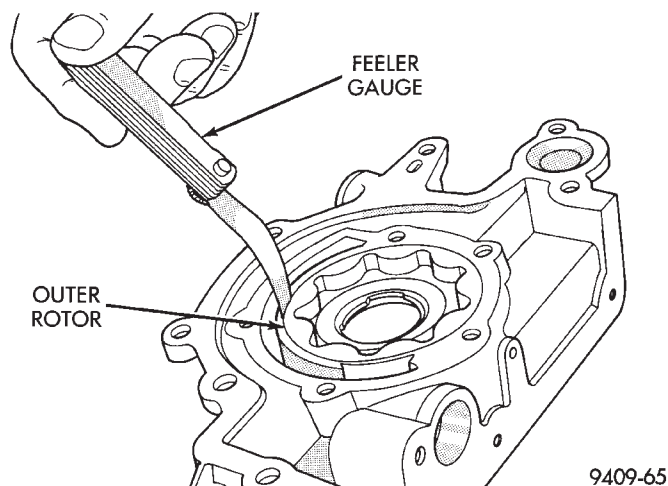

Fig. 98 Measuring Outer Rotor Clearance in Housing
(5) Slide outer rotor into pump housing, press to one side with fingers and measure clearance between rotor and housing (Fig. 98). If measurement is 0.39 mm (0.015 inch.) or more, replace housing only if outer rotor is in specification.